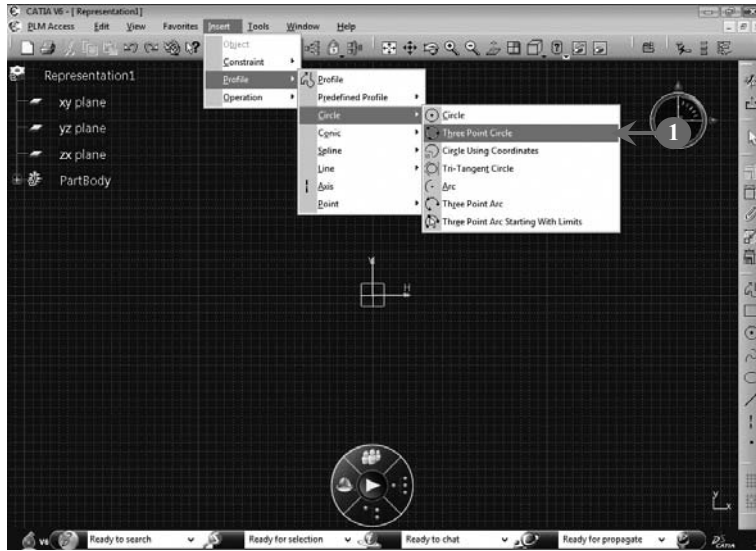

FIGURE 2.26
1. *Select* **Insert > Profile > Circle > Three Point Circle**, as shown in **Figure 2.26**: